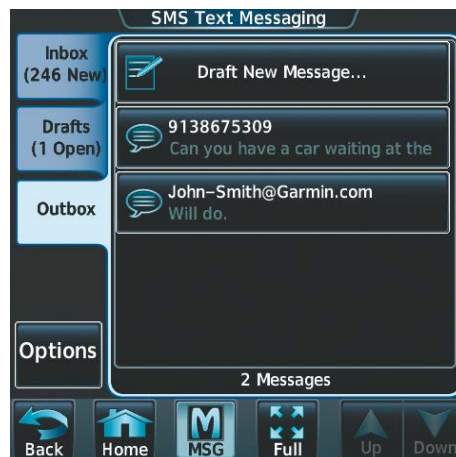

Figure 8-101 SMS Text Outbox
- 2) Touch the **Outbox** Tab. A list of sent or unsent messages is displayed as in Figure 8-101.